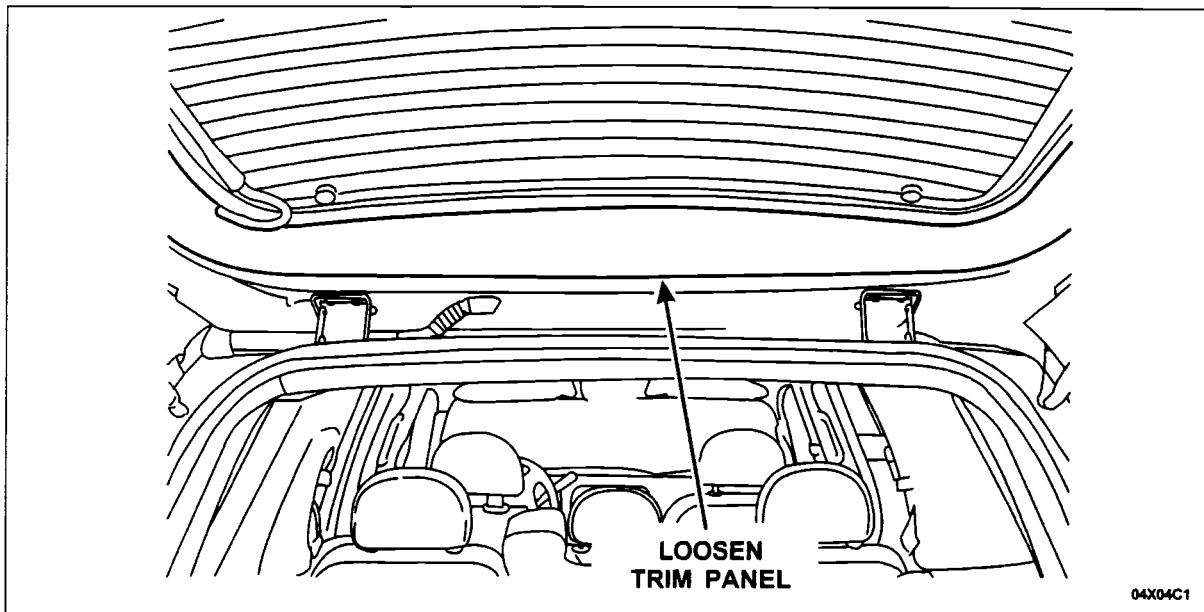

FIGURE 3
5. Position the upper part of the liftgate trim panel away from the liftgate to gain access to the hinge fasteners. See Figure 3.